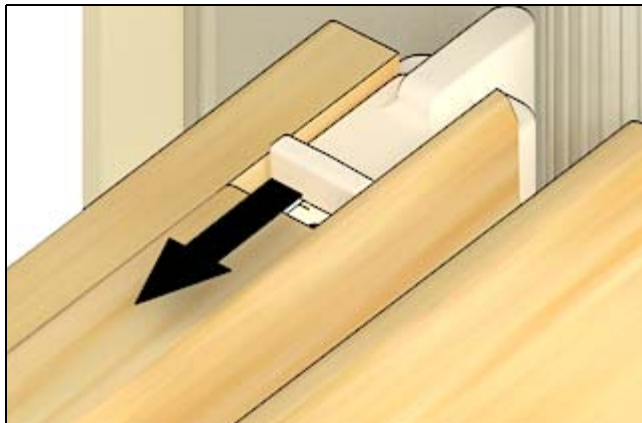

Figure 24
2. To tilt the top sash, lower top sash about 1/2 way. Pull the tilt latches (in the edge of sash top rail) until they release on each side. Hold latches until they clear unit frame when tilting. Ease top of sash toward you to horizontal position. See Figure 24.